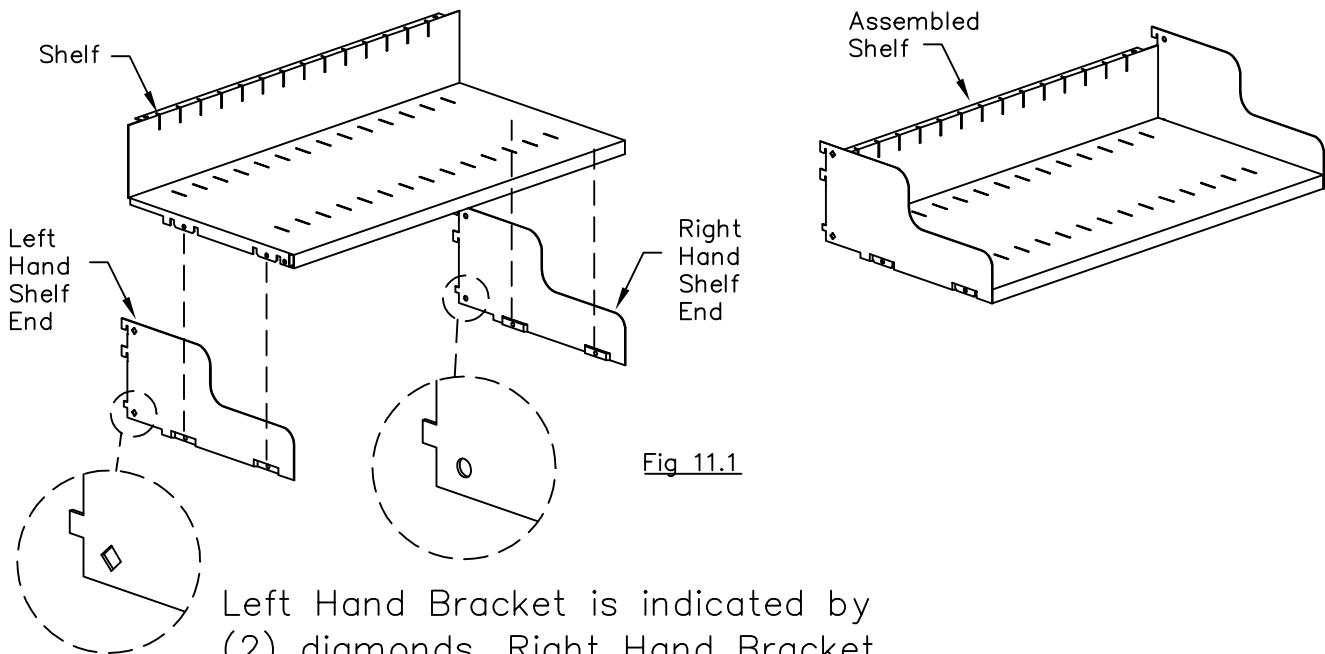

Fig 11.1
11. Install the left and right hand shelf ends to the shelf. (**Fig. 11.1**)